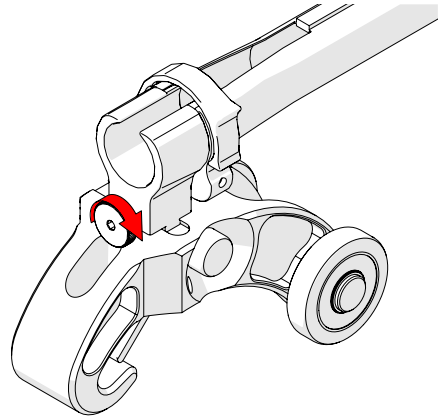

Fig. 53 - Tighten knob
2. Once centred on the heavy duty dovetail QuickLink, tighten the cable management's dovetail mount knob (Fig. 53).